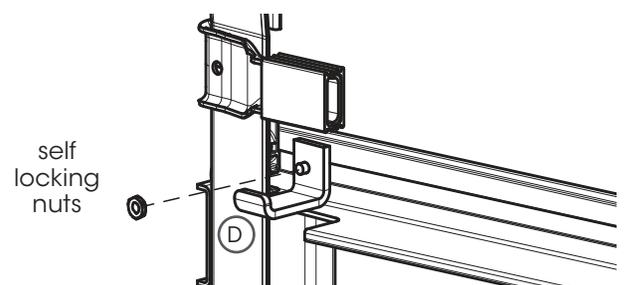

Fig: 2.6.4
- Fit bottom rail stops © using self locking nuts provided. Allow the door to rise and rest against the head stop (**Fig 2.6.4**)